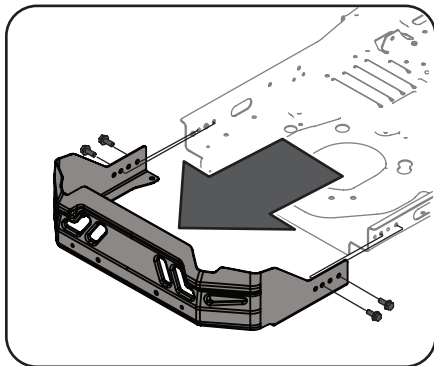

Figure 4-1
1. Remove bumper assembly. See Figure 4-1.